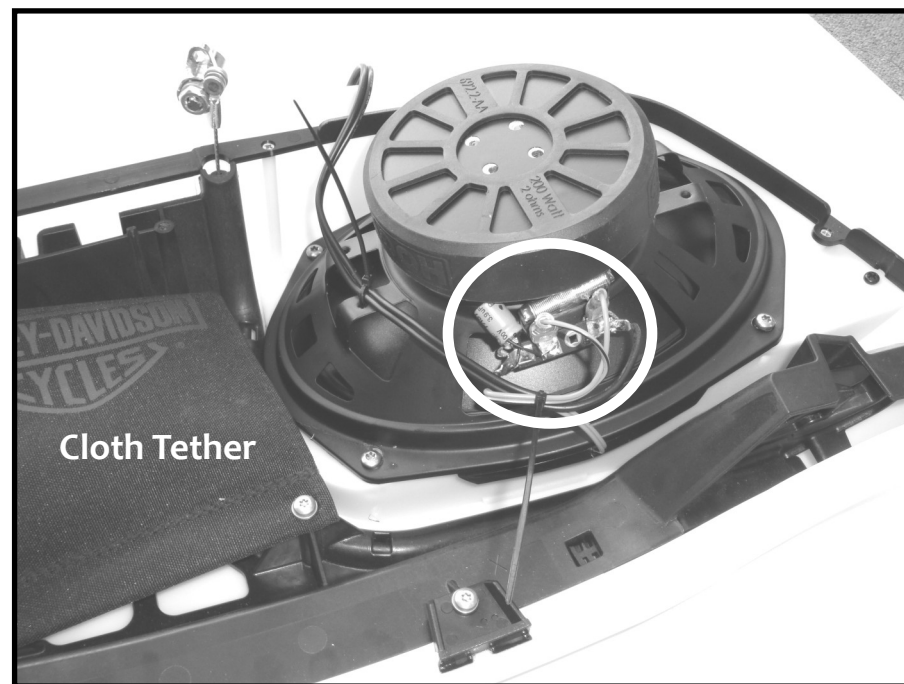

Fig 1.6
**Mounting the speakers:** Most car speakers have the connectors on one side as shown by the white circle in Fig 1.6 (below). If yours are like this, sit the speaker in place so it is oriented as shown below . If your speakers connectors are on an "end", sit the speaker on the lid so the connectors sit closest to the factory cloth tether. The lids come supplied with silver #8 coarse thread screws, with 5/8" thread which will secure many speakers nicely. USING A HAND TOOL , attach your speaker to the lid noting it's a good idea to get each screw "started" before securing in place. Depending on the speaker you are using ,you may need to use longer screws. Do not use too long a screw as you may pierce the top side of the lid! Also, you will see that 2 of the speaker screws also go up into bosses and secure the grill to the bike. Do not use wider screws as you may destroy the grills bosses and your grills will not be secured. PIERCING THE LID OR DESTROYING THE GRILL BOSSES IS NOT COVERED BY WARRANTY.